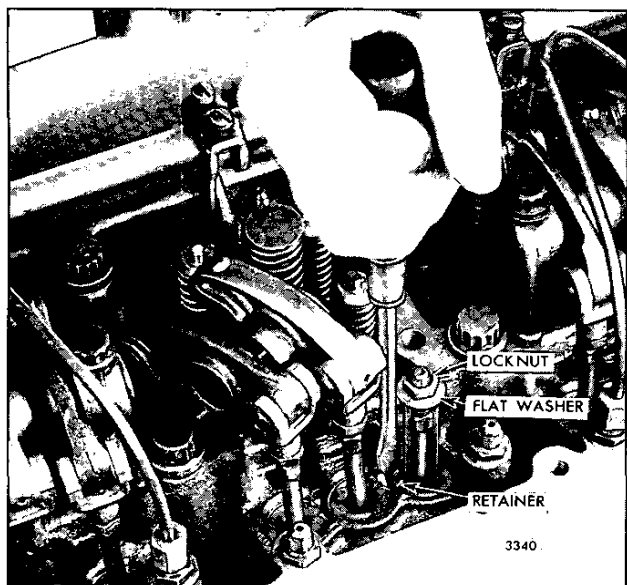

Fig. 2 – Removing Push Rod from Upper Side of Cylinder Head Using Tool J 3092-01
5. Remove the spring seat retainer from the groove in the cylinder head (Fig. 2).